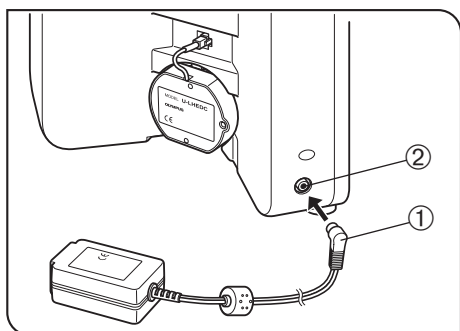

Fig. 52
11 Attaching the AC Adapter (Fig. 52)
- Make sure that the main switch is set to “○” (OFF) before connecting the power cord (Fig. 52).
1. Insert the connector ① of the AC adapter firmly into the connector ② on the microscope.